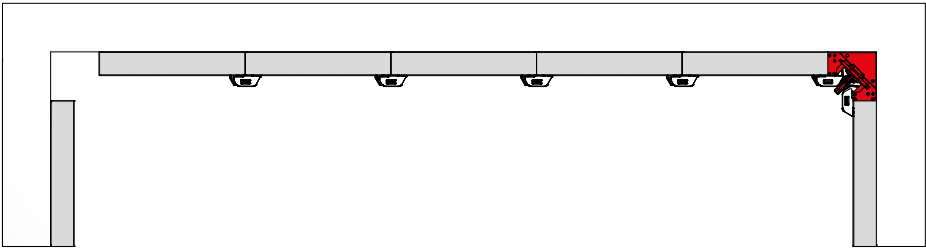

Fig. 39.3
- 3. Lift the ST stripping corners out of their position, then strip the panels (Fig. 39.3).